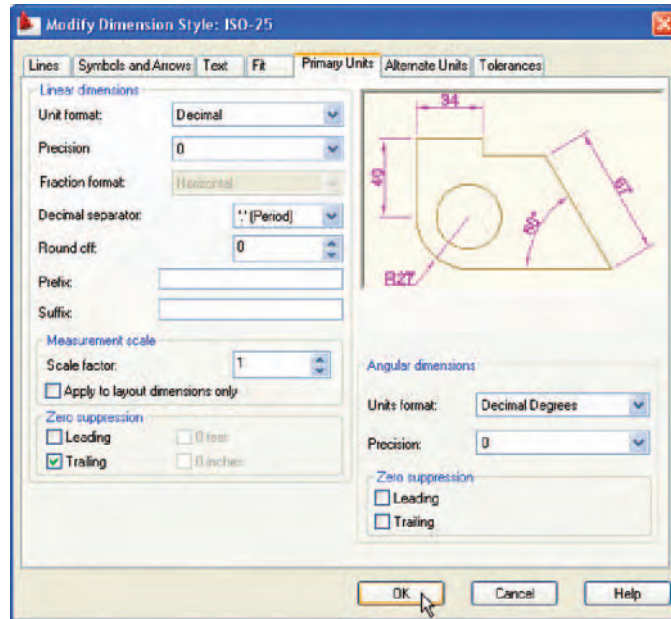

Fig. 4.12 Setting **Primary Units** in the **Dimension Style Manager**
5. The **Modify Dimension Style** dialog reappears (Fig. 4.12), *click* the **Symbols and Arrows** tab. Set **Arrow** size to 6.
7. Then *click* the **Primary Units** tab and set the units **Precision** to **0**, that is no units after decimal point and **Decimal separator** to **Period**. *Click* the sub-dialogs **OK** button (Fig. 4.12).